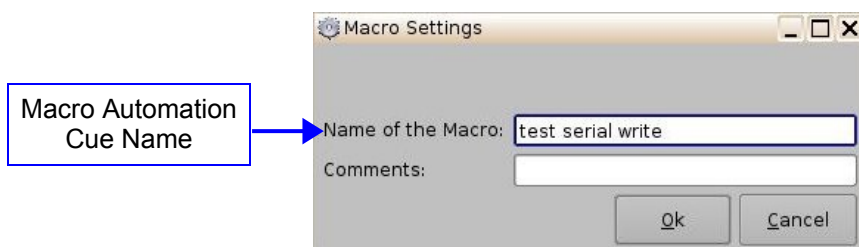

Figure 178: Macro Automation Cue Name
- The user will be prompted to enter a name for the Macro Automation Cue (Figure 178).